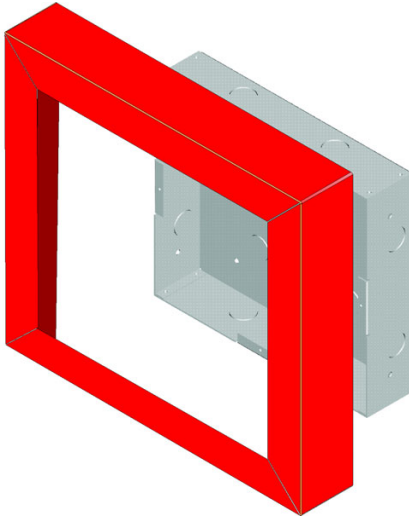

Figure 4.25 Installing Trim Ring
4. Place the trim ring over the back box as shown in Figure 4.25.